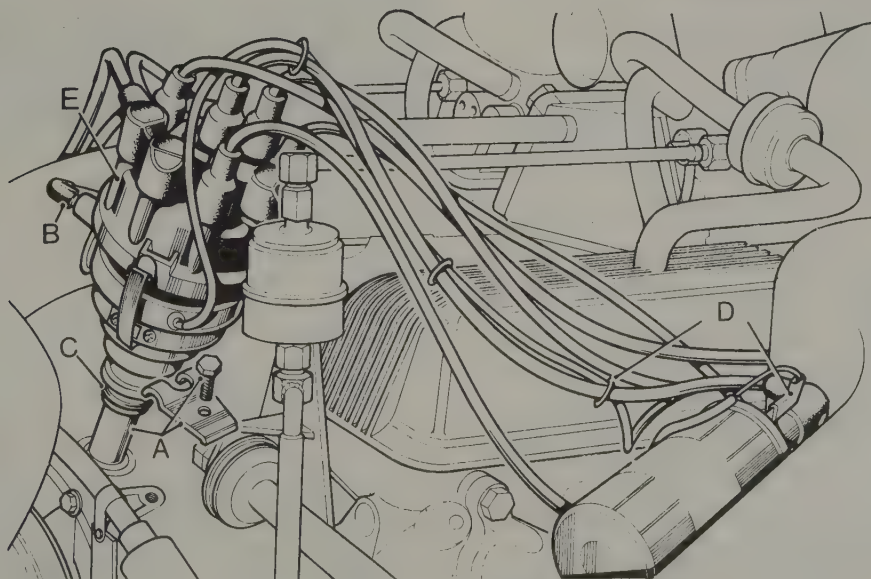

Fig. 4.3. General layout of ignition and harness
- 7 Remove the clamping bolt and clamp. (Fig. 4.3).